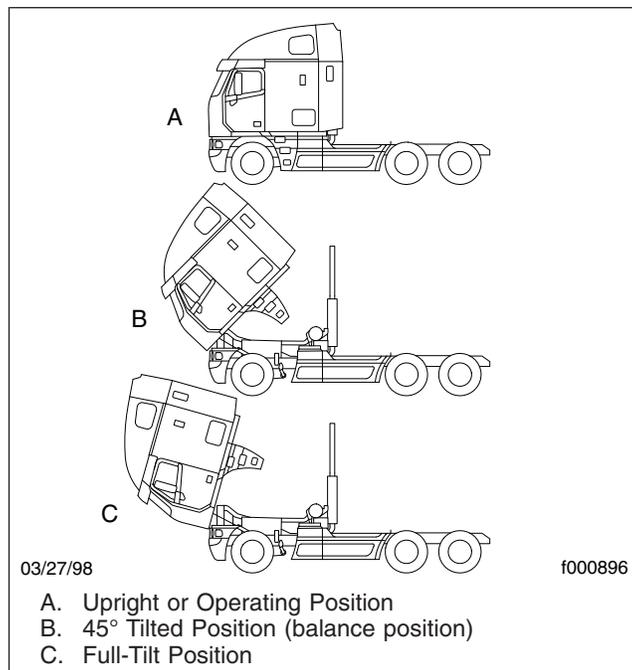

Fig. 19, Cab Tilt Positions
- To tilt the cab all the way, press and hold the button on the pump until the cab nears a 45-degree angle (the balance point). See **Fig. 19**. Once the cab goes beyond 45 degrees, release the button on the pump and move the tilt pump lever to the RETURN position in order to slow the cab descent.